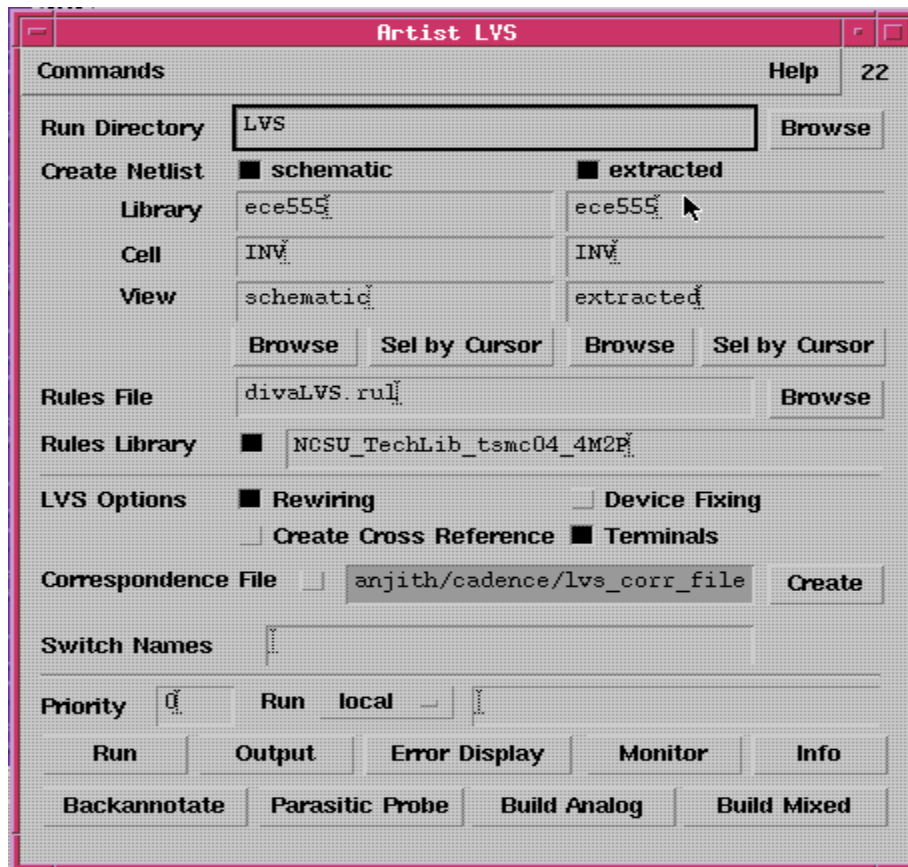

Fig. 22. Running LVS
- In *Layout Editing* window, select **Verify --> LVS...** Fig. 22 should appear. Use the **Browse** button in *LVS window* to select that schematic and extracted view you are going to check for equivalence. You should have *LVS window* as Fig. 22. Just click run to start.